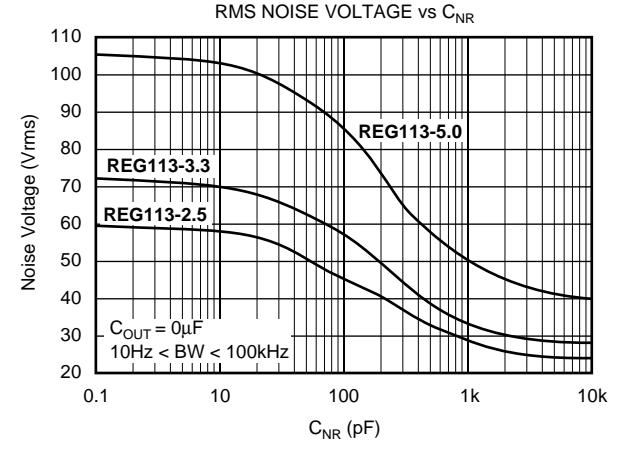
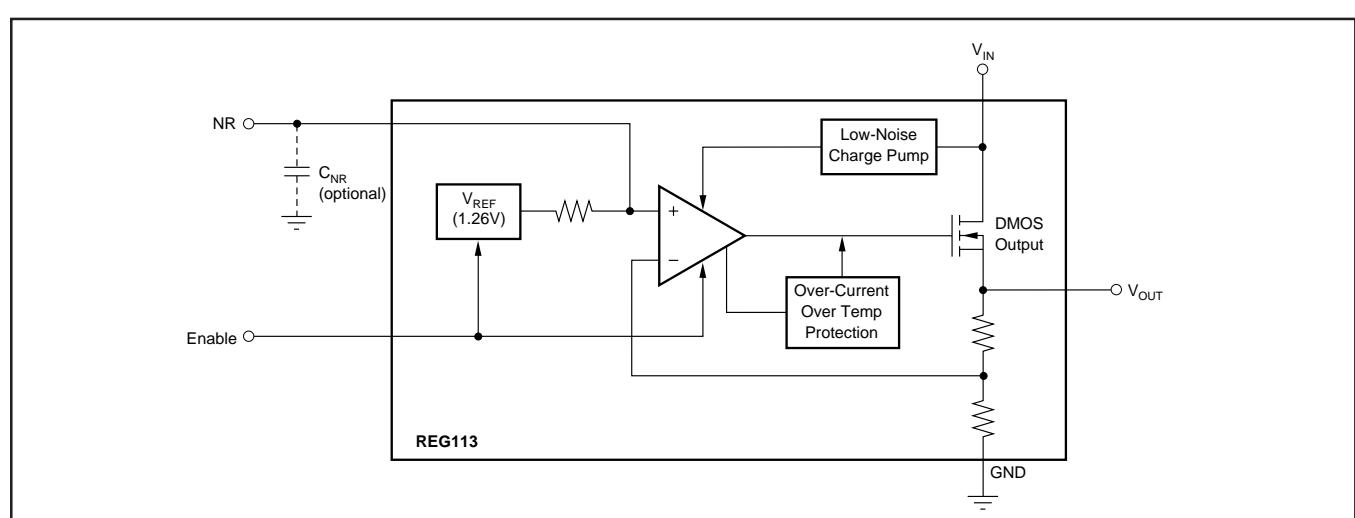

FIGURE 4. Output Noise versus Noise Reduction Capacitor.
FIGURE 3. Block Diagram.
Connecting a capacitor,  $C_{NR}$ , from the Noise Reduction (NR) pin to ground (as shown in Figure 3) forms a low-pass filter for the voltage reference. For  $C_{NR} = 10\text{nF}$ , the total noise in the 10Hz to 100kHz bandwidth is reduced by approximately a factor of 2.8 for  $V_{OUT} = 3.3\text{V}$ . This noise reduction effect is shown in Figure 4, and as *RMS Noise Voltage vs  $C_{NR}$*  in the Typical Characteristics section.